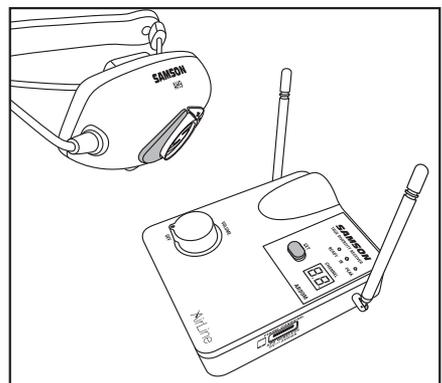

Figure 2
7. Position the AH9 transmitter about 6-12” (15-30 cm) from the front of the AR99m with the transmitter’s IR window facing the IR transmitter on the front panel of the AR99m receiver (figure 2).